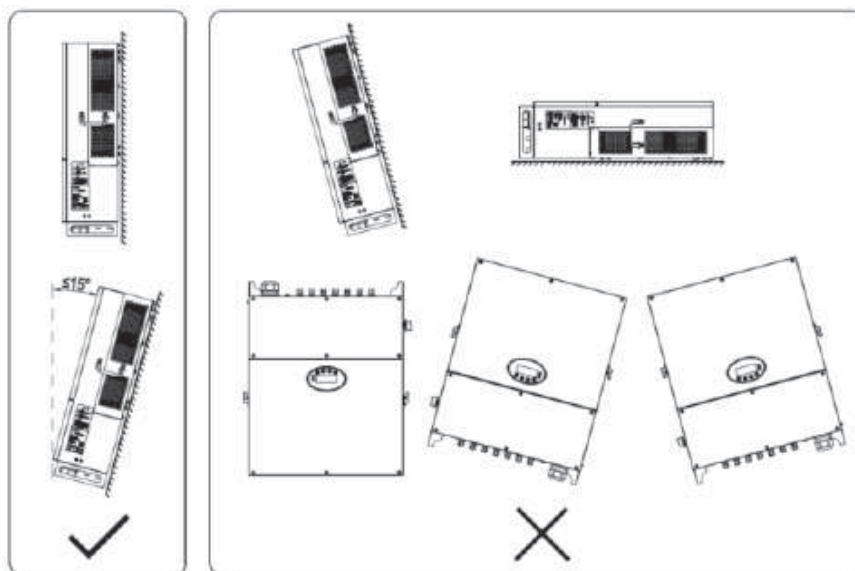

Fig 4.5 Installation position of the inverter
- (4) The ambient temperature of installation should be $-25^{\circ}\text{C}\sim 60^{\circ}\text{C}$
- (5) The installation site should be away from electronic devices which can generate strong electromagnetic interference
- (6) The inverter should be installed on firm and solid surface eg wall surface and metal bracket
- (7) The installation surface should be vertical to the horizontal line, as shown in Figure 4.5
As shown in the fig 4.5, the overall installation of the inverter should be vertical to the horizontal surface.